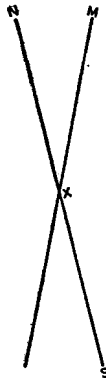

Figure 187.—Variation.
In figure 187, let N equal true north, and M equal magnetic north from position X . Then XN is the true north direction, XM is the magnetic north direction, and NXM is the variation for the locality. If, as in this case, magnetic north is eastward of true north, the variation is called easterly, and is marked (E). If the magnetic north direction is westward of true north, the variation is called westerly and is marked (W).